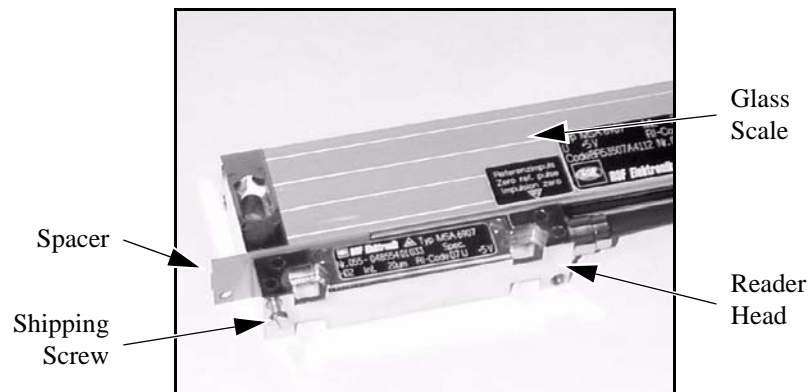

Figure 9-15 Removing the Z-Axis Glass Scale Shipping Screw
10. Use a small flat-head screwdriver to remove and discard the shipping screw (see Figure 9-15). Then remove (but do not discard) the reader head spacer.